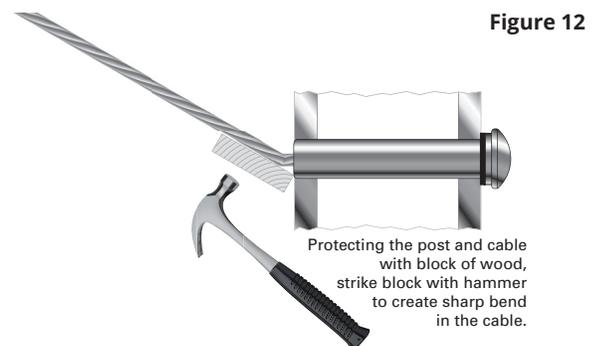

Figure 12
- Move to Pull-Lock® end of the run and you are going to create a sharp bend in the cable where it exits post by placing a block of wood (for protection of the post) on the cable at the face of the post and striking it with a hammer. (Figure 12) This will create the sharp bend you are looking for.